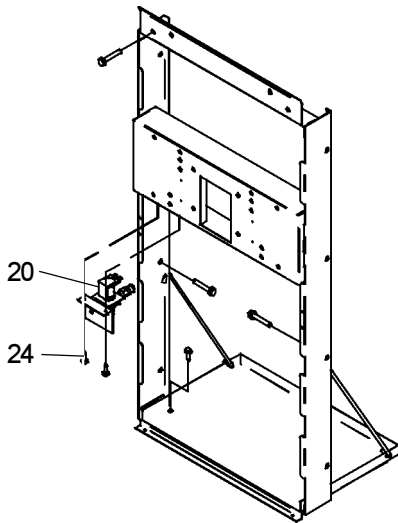

FIG. 7
3. Attach solenoid valve assy to the underside of cross member of mounting frame. See Figure 7.